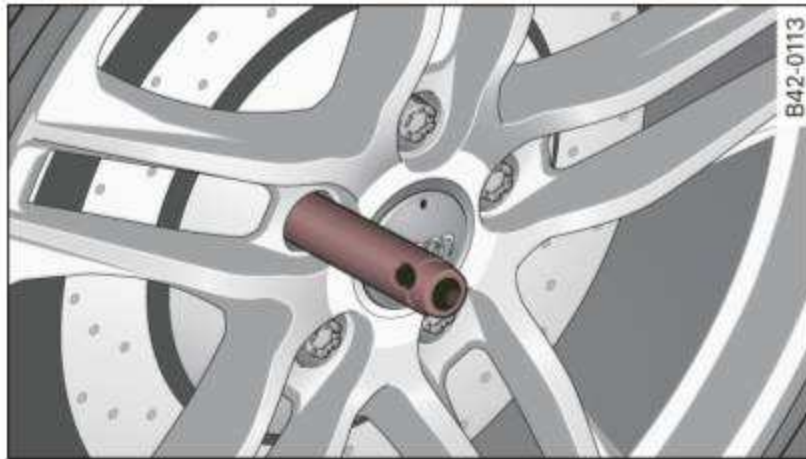

Fig. 134 Wheel change: alignment pin inside the top hole
- Screw the threaded end of the **alignment pin** from the tool kit hand-tight into the now vacant bolt hole ⇒ fig. 134.